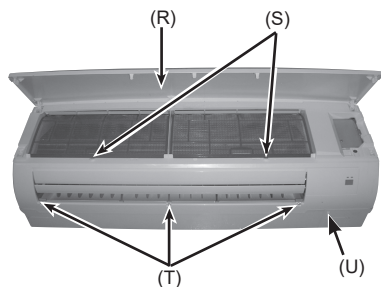

Fig. 6-2
- (1) Press and unlock the knobs on both sides of the front grille and lift the front grille until it is level. Pull the hinges forward to remove the front grille. (Fig. 6-2)
- (2) Remove 3 screw caps of the panel. Remove 5 screws. (Fig. 6-2)
- (7) Remove the screw of the corner box. (Fig. 6-2)